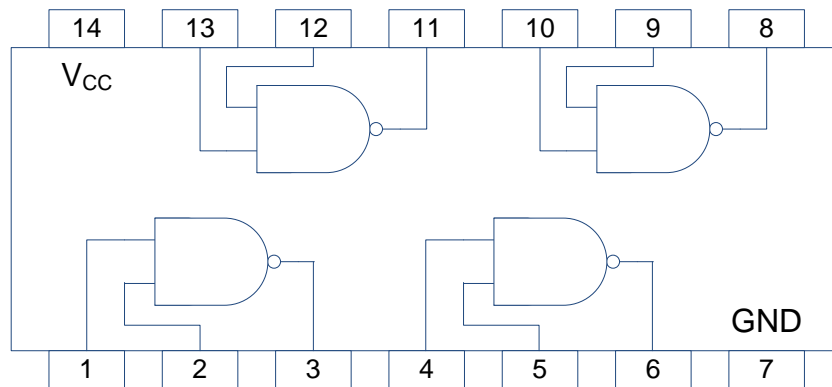
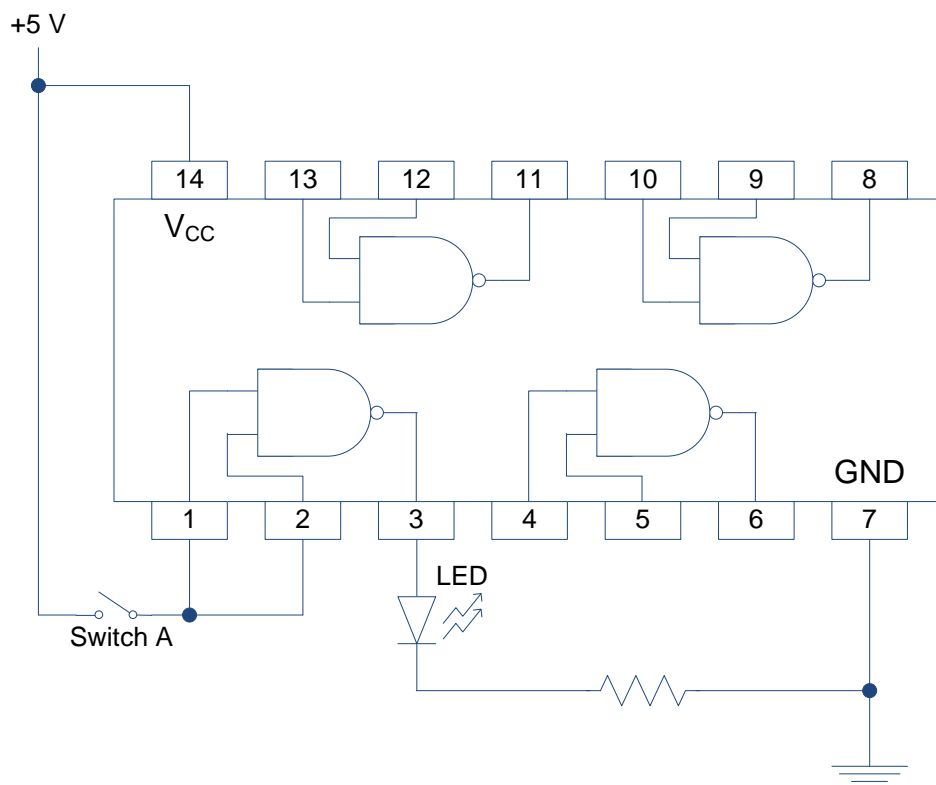

Figure 2.20: 74LS00 - Quad NAND IC.
Figure 2.21: NOT gate implementation example using 74LS00.
All the gates that we have discussed in this chapter are manufactured as integrated circuit (IC) with several gates in one IC. For example, 74LS00 is a transistor-transistor logic (TTL) technology based IC that has four (quad) two-input NAND gates. Complementary Metal-Oxide Semiconductor (CMOS) is another technology that is widely used for manufacturing IC but TTL devices are more commonly employed for laboratory experiments as they are more robust to electrostatic noise. Figure 2.20 shows the pin configuration of 74LS00 and Figure 2.21 shows an example of pin configurations to implement NOT operation. Pin 14 is connected to the power supply while pin 7 is the ground pin. It should be obvious that the LED will only light-up (i.e. the output will be HIGH) if switch A is turned OFF (i.e. made to logic level LOW) – similar to the input and output values as in the truth table shown in Table 2.3.